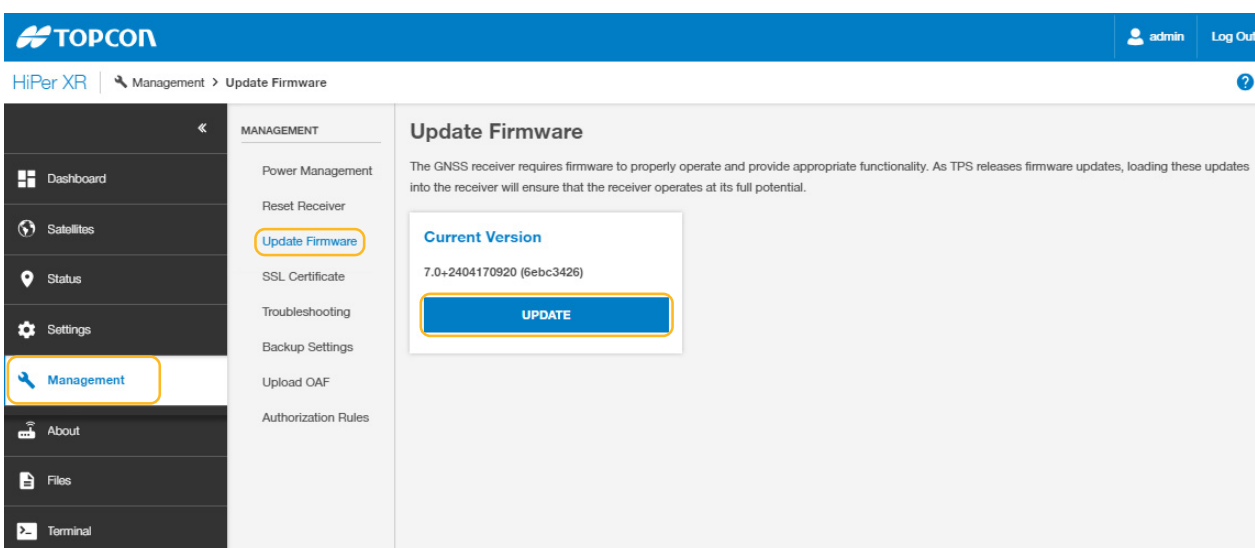

Figure 2-32: Web UI Firmware Update
4. Open the **Management** menu on the web UI and select **Update Firmware** (Figure 2-32).